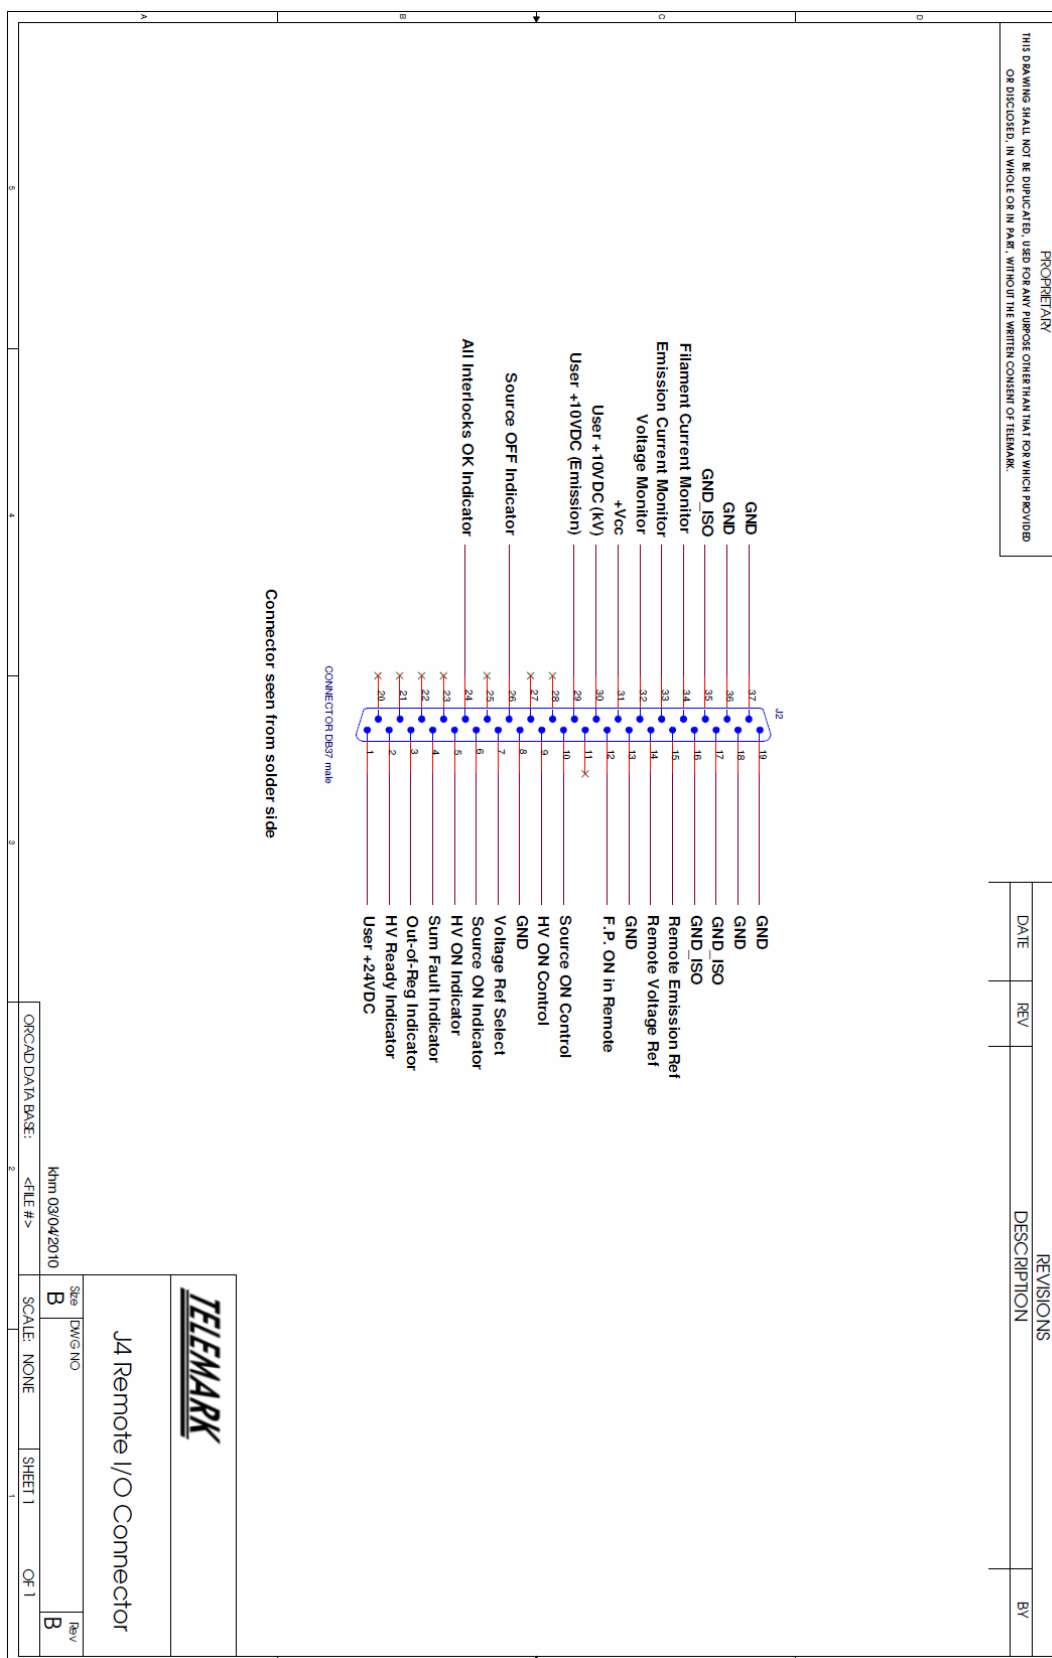

Figure 9-3, J4 Remote User I/O Connector
- Figure 9-3 J4 Remote User I/O Connector